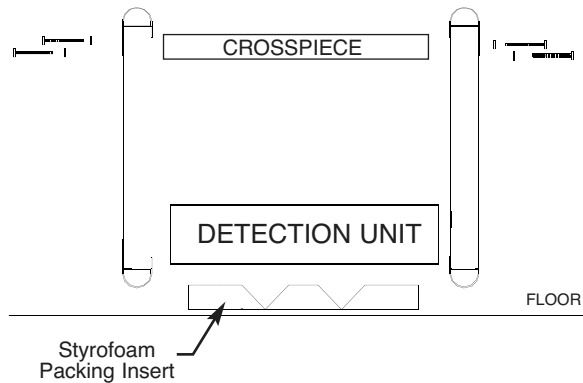

FIGURE 2-4
6. Use the four remaining screws and washers to attach the crosspiece to the two panels as shown in Figure 2-4.